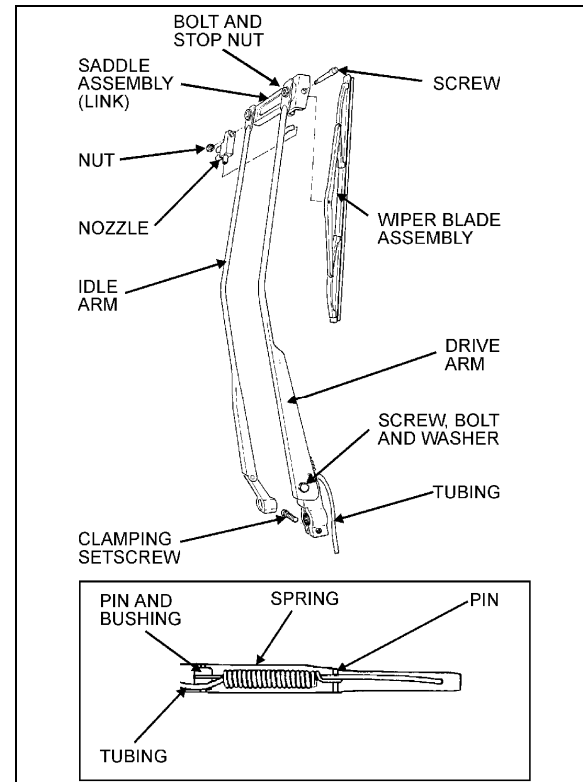

FIGURE 36: LOWER WINDSHIELD WIPER 23086
1. Remove the cap nuts from the wiper arm pivot shafts (Fig. 36 and 37);